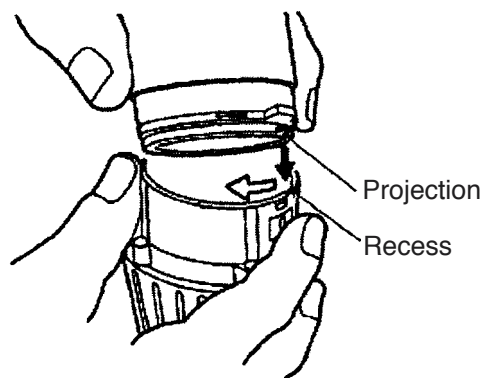

Fig. 13
(f) Install the assembly reassembled in step (1) and the assembly reassembled in step (e) together. (See Fig. 13.)